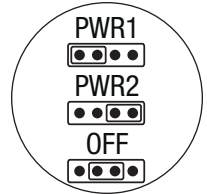

Fig. 1
4. Set each output [OUT1] - [OUT12] to route power from Power Supply 1 or 2 (*Fig. 1, pg. 3*).